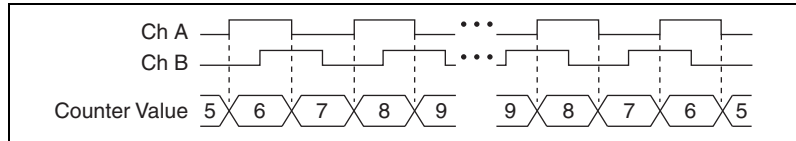

Figure 7-19. X2 Encoding
- X2 Encoding**—The same behavior holds for X2 encoding except the counter increments or decrements on each edge of channel A, depending on which channel leads the other. Each cycle results in two increments or decrements, as shown in Figure 7-19.